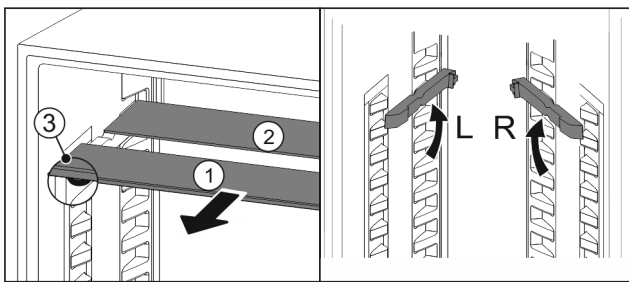

Fig. 126
- ▶ Pull the glass panels out Fig. 126 (1) from the front, one at a time.
- ▷ The glass panel Fig. 126 (1) and trim strip are at the front.
- ▷ The stops Fig. 126 (3) point down.